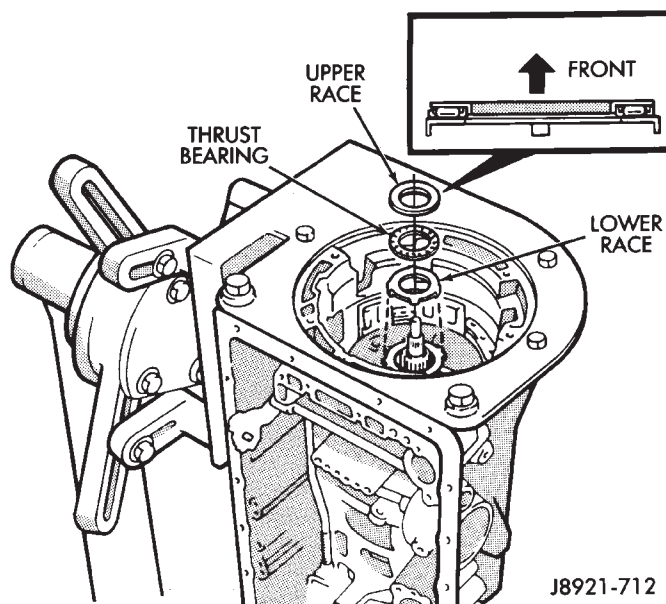
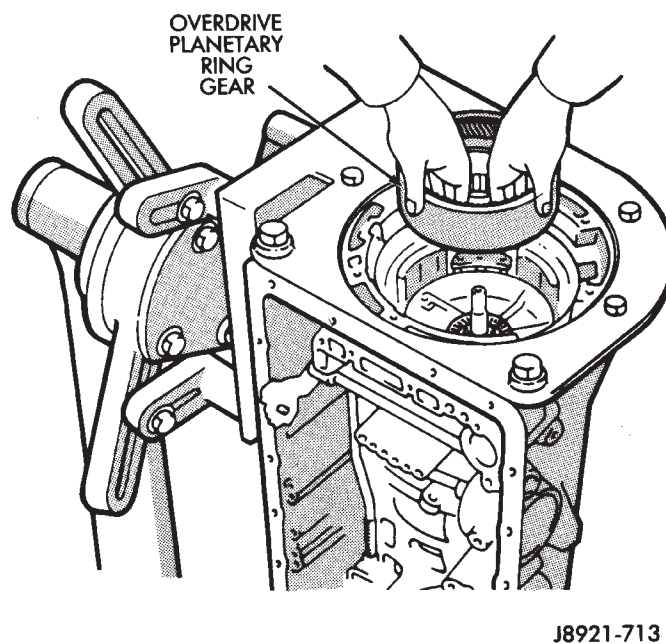

Fig. 45 Installing Overdrive Support Thrust Bearing And Races
Fig. 46 Installing Overdrive Planetary Ring Gear
(54) Remove overdrive brake piston snap ring and remove overdrive clutch pack components.
(55) Coat overdrive lower race, thrust bearing and upper race with petroleum jelly and install them in overdrive support (Fig. 45). Be sure races and bearing are assembled and installed as shown.
(56) Verify bearing/race sizes before proceeding. Bearing-race sizes are:
(57) Install overdrive planetary ring gear in support (Fig. 46).